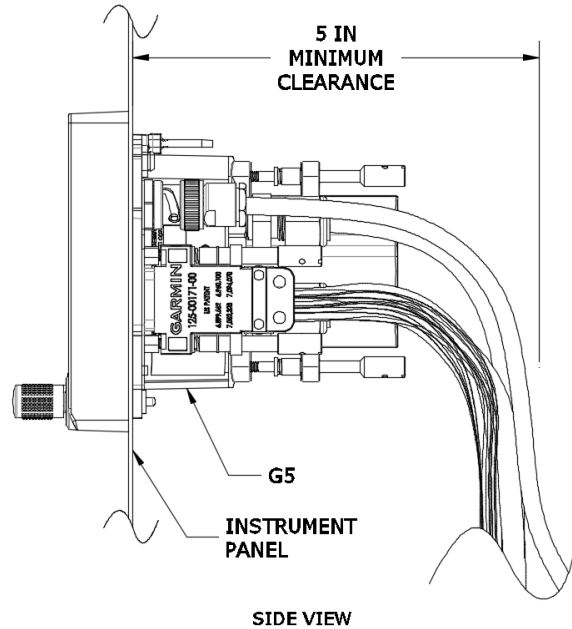

Figure 4-14 Clearance for Connections
- 7) The location of the hole must allow for sufficient clearance for the G5 electrical and pneumatic connections, see Figure 4-14.
- 2) The proposed location must allow for sufficient clearance for the G5 unit and connections as shown in Figure 4-14.